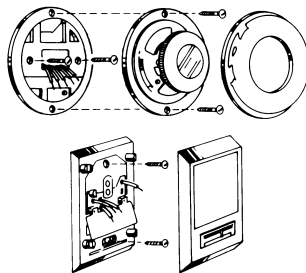

FIGURE 1
2. Remove cover of old thermostat to expose wires. (Figure 1)